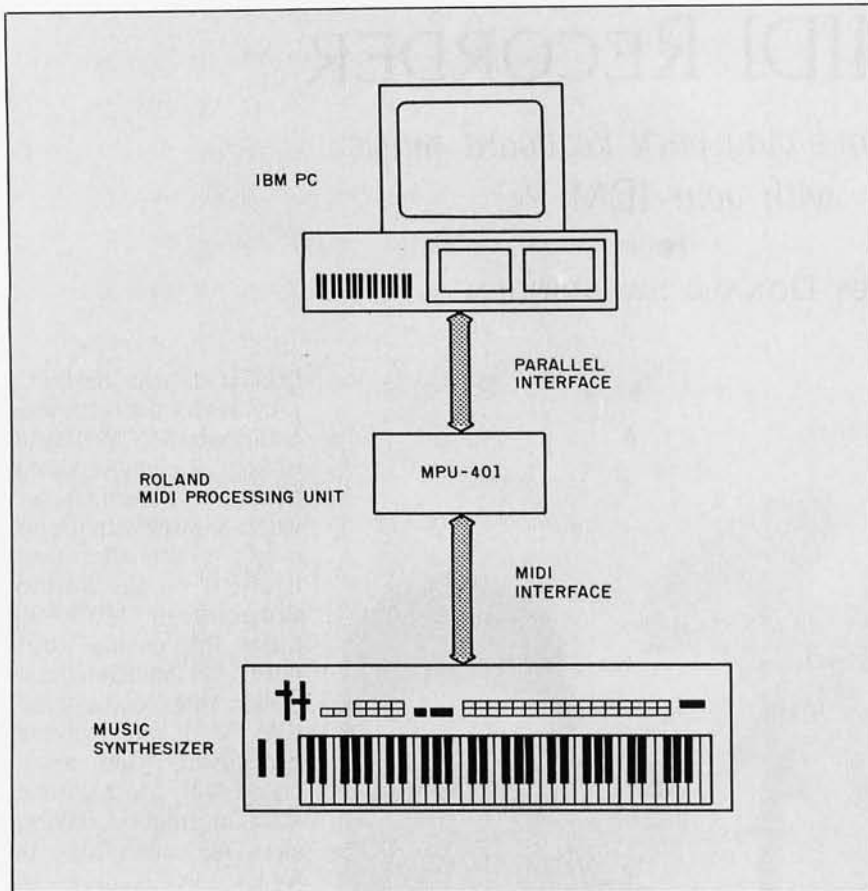

Figure 1: Interfacing a music synthesizer with an IBM PC via the MIDI Processing Unit (MPU).
FORTH for the IBM PC, provides for the recording and playback of MIDI data on any of eight separate tracks. It communicates with a MIDI-equipped music synthesizer (see figure 1) via the Roland Corporation MPU-401 MIDI Processing Unit (MPU), an intelligent controller that relieves the IBM PC of much of the processing load associated with the real-time MIDI information. (Editor's note: The source code for MPU401.PCF is available for downloading via BYTEnet Listings. Call (617) 861-9774 before November 1; thereafter, call (617) 861-9764. You will need PC/FORTH in order to use the program.)